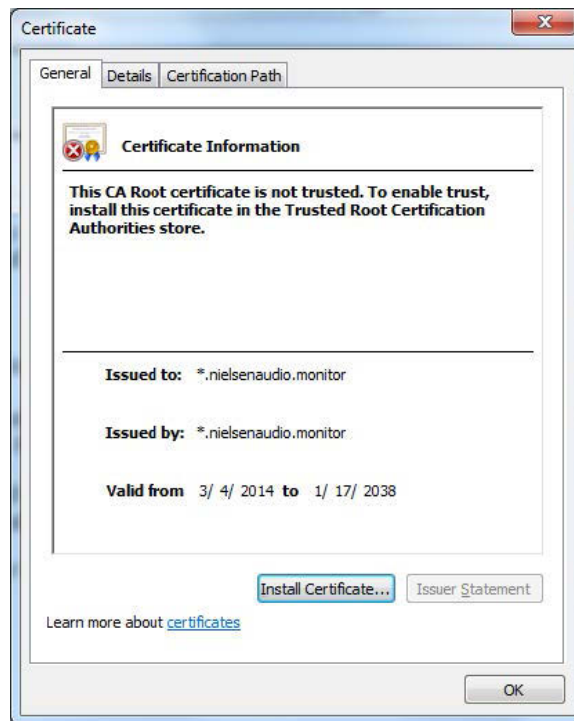

Figure 53: Certificate Information Dialog Box
3. Click Open. A dialog box such as the one in Figure 53 appears.